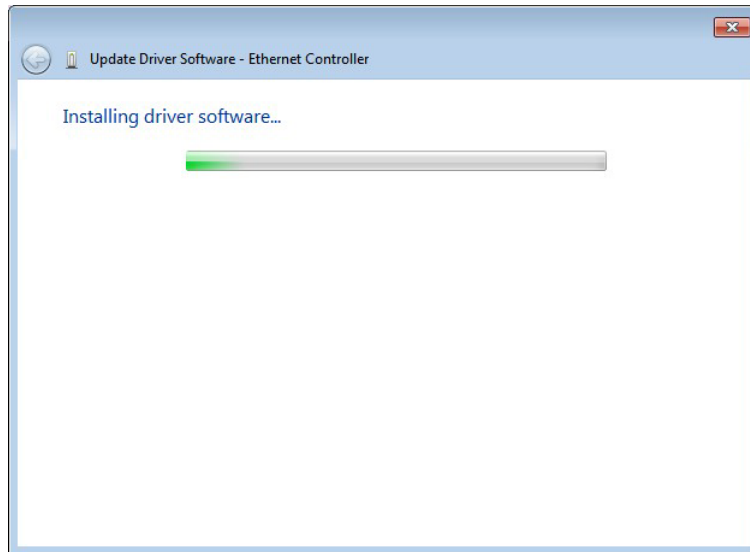

Figure 7-17: LAN Driver Installation
Step 10: Driver Installation is performed as shown in **Figure 7-17**.